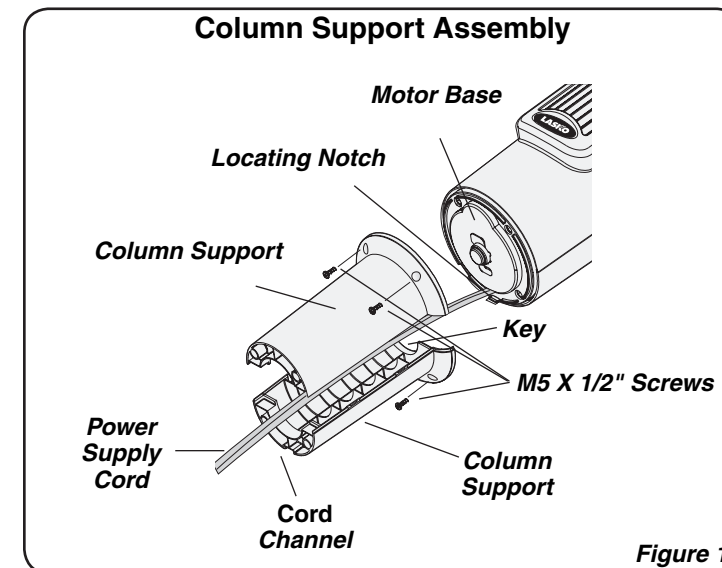

Figure 1
2. Locate the **Power Supply Cord** at the bottom on the Fan. Place the **Power Supply Cord** in the **Cord Channels** of the **Column Supports**. Snap the **Column Supports** firmly together to form the **Column Support Assembly**. (**Figure 1**)
3. Attach the **Column Support Assembly** to the **Motor Base** with (4) 1/2" Long **M5 Screws**. Make certain to align the **Key** on the **Support Column Assembly** with the **Locating Notch** on the **Motor Base**. (**Figure 1**)